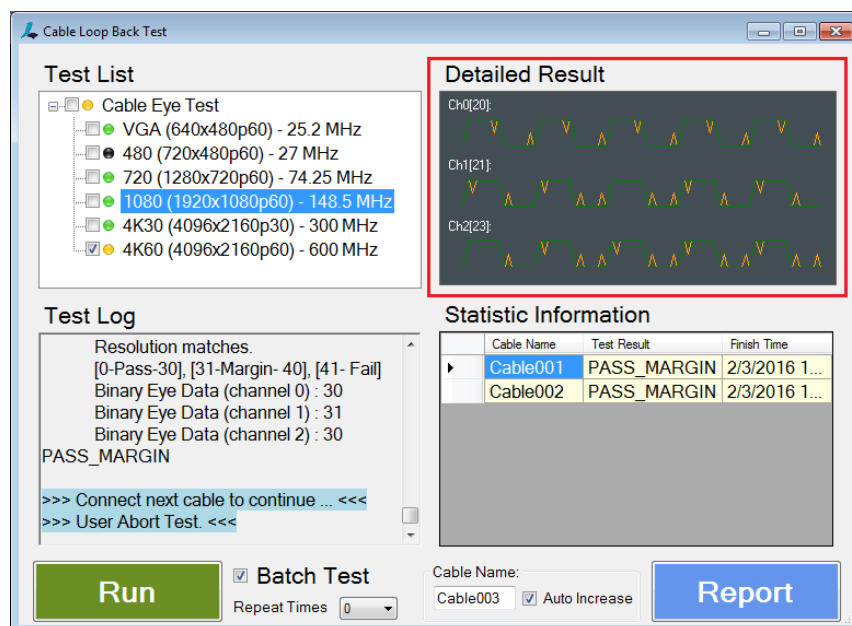

Figure 4.16. Cable Loop Test - Detailed Result Area
- After the testing is completed, click the item in the Test List area. The detailed result will be shown in the Detailed Result area (Figure 4.16). The green lines show the ideal signal waveform. The orange triangles show the noise jitter detected during the test.
- Click the Report button (Figure 4.16). The Report file in HTML format is opened, and is automatically saved under Documents\SimplayAVG folder, name of which is CableTestSummary.html.
- Items in the Statistic Information area can be deleted (Figure 4.16) by selecting an item row and pressing the delete key (on your keyboard).